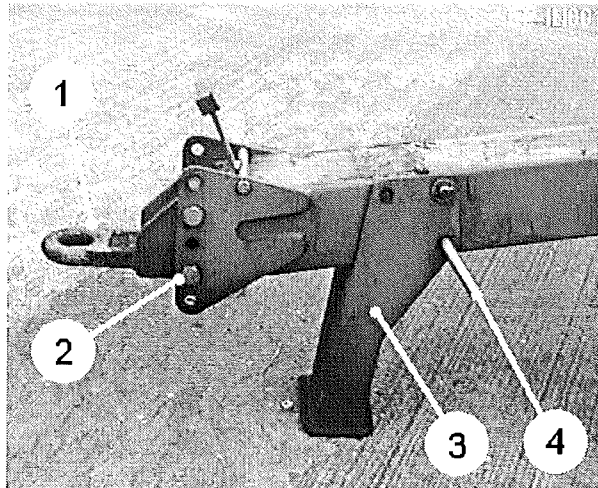

Fig 1
The harvester drawbar is designed to be attached to the pick-up hitch of the tractor. The drawbar eye (item 1, figure 1) is adjustable for height to allow the machine to be set in a level working position. When in work the top of the guard above the Galaxy star unit should be level with the ground. To adjust the eye position, remove the two bolts (item 2, figure 1) and move the eye to the required position. The eye can be turned over to achieve a second range of adjustments. The jack stand (item 3, fig 1) is provided so that the machine is held at a suitable height for safe coupling to the tractor.
When the machine has been securely attached to the tractor, the jack stand can be folded back into the stored position by removing the anchor pin (item 4, fig 1), rotating the stand and then securing it with the anchor pin.